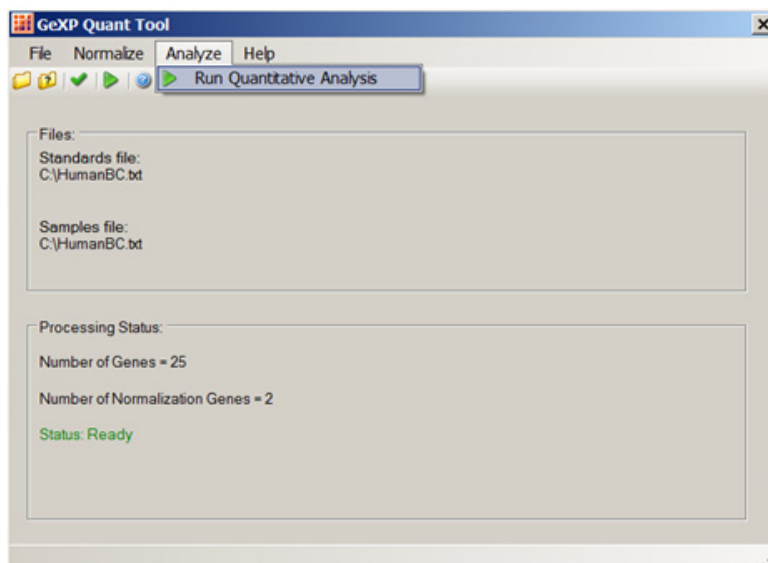

Figure 7.42 Run Quantitative Analysis
7. Select “Run Quantitative Analysis” from the “Analyze” menu. Refer to Figure 7.42.